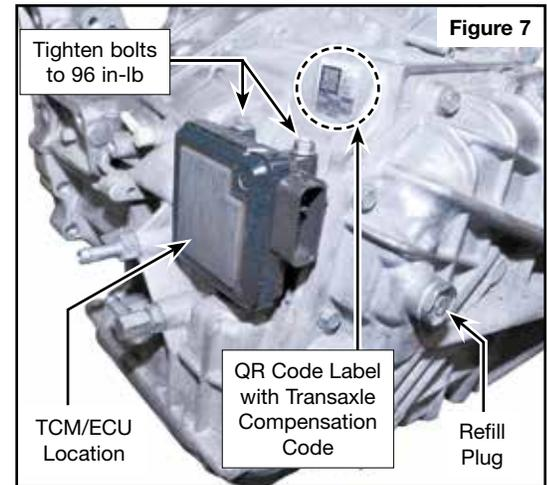

Figure 7
- Install TCM or pass thru connector and tighten two bolts to 96 in-lb (**Figure 7**).
This procedure resets the code and, combined with a road test, allows the TCM to relearn (**Figure 7**).